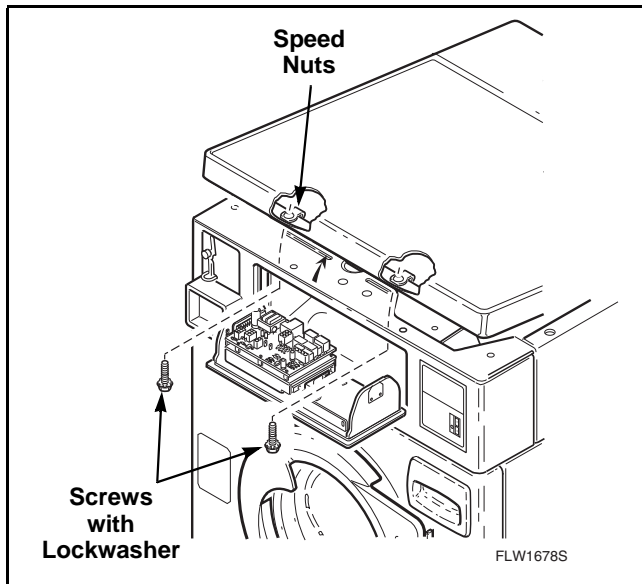
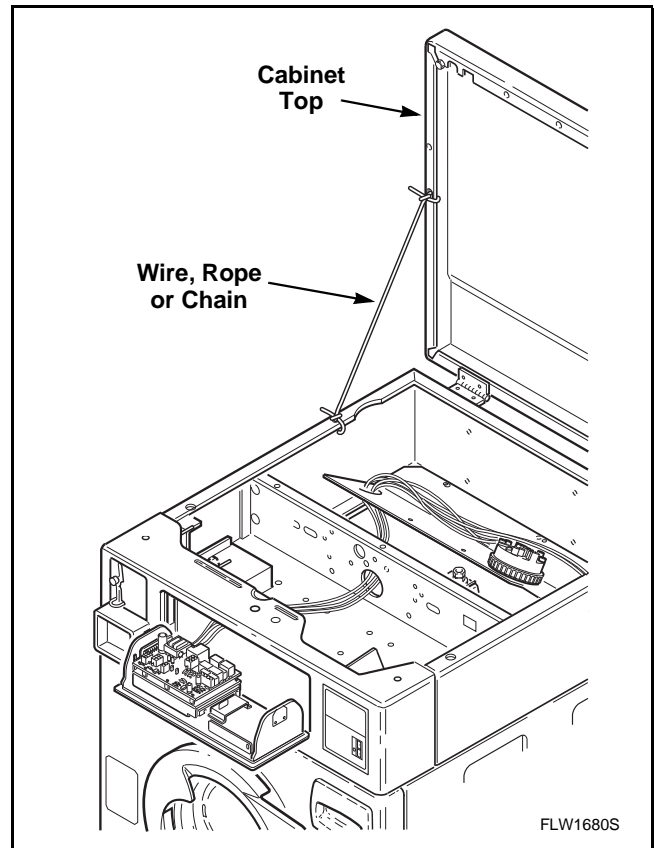

Figure 22
Figure 23
- Remove two screws holding front of cabinet top to top front edge of control cabinet front. Refer to *Figure 22*.
**NOTE:** To avoid damage to hinges, be sure to support cabinet top with a small chain or something similar. Refer to *Figure 23*.
- (1) Remove control panel. Refer to *Paragraph 30* or *32*.
- (2) Remove two screws holding front of cabinet top to top front edge of control cabinet front. Refer to *Figure 22*.
- (3) If area or space permits, lift cabinet top to a vertical position by hinging it on the rear hinges.
- d. Remove two screws holding front of cabinet to top front edge of control cabinet front. Refer to *Figure 22*.
**NOTE: To avoid damage to hinges, be sure to support cabinet top with a small chain or something similar. Refer to *Figure 23*.**